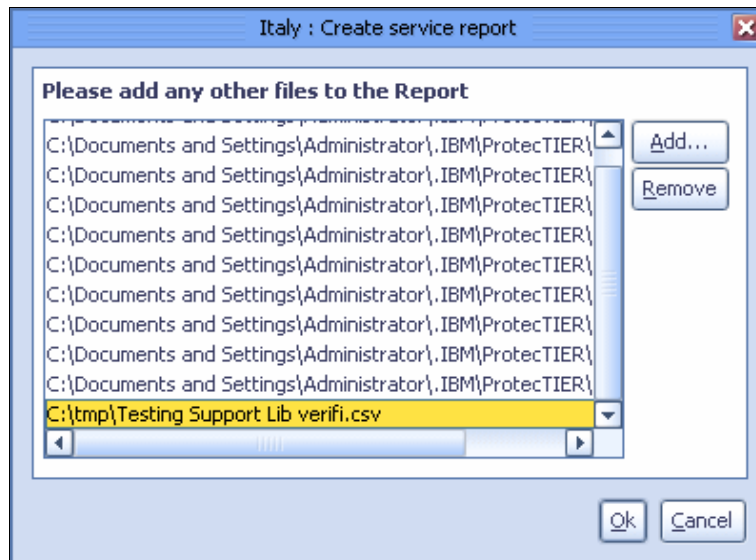

Figure 10-66 Adding additional files to the report
4. Optionally, click **Yes** to browse for additional files to add to the report if IBM Support requests additional log files (Figure 10-66).